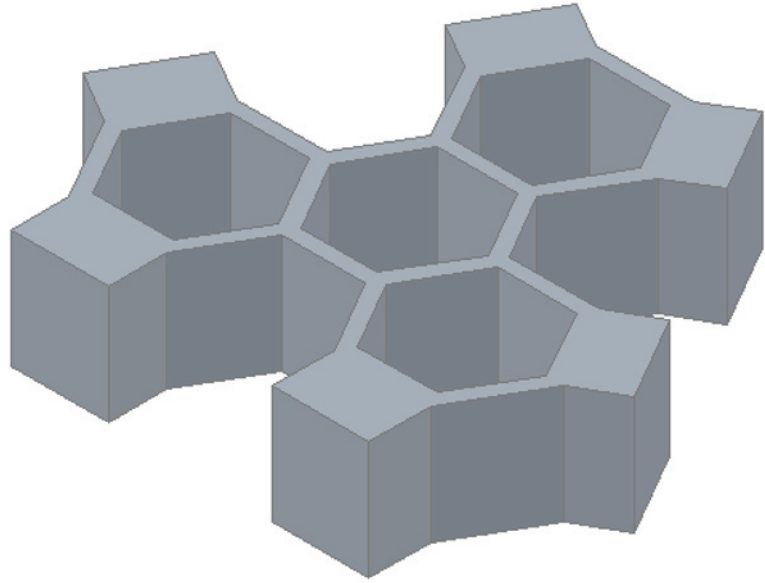
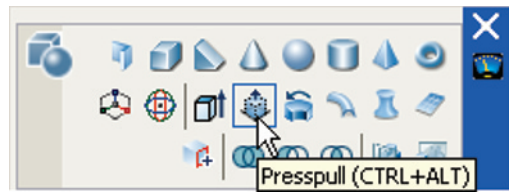

Fig. 13.41 Exercise 3
Fig. 13.42 Exercise 3 – the **Presspull** tool from the **3D Make** control panel
3. Fig. 13.41 shows the 3D model from Exercise 2 acted upon by the **Presspull** tool from the **3D Make** control panel (Fig. 13.42).
With the 3D model from Exercise 2 on screen and using the **Presspull** tool, construct the 3D model shown in Fig. 13.41. The distance of the pull can be estimated.